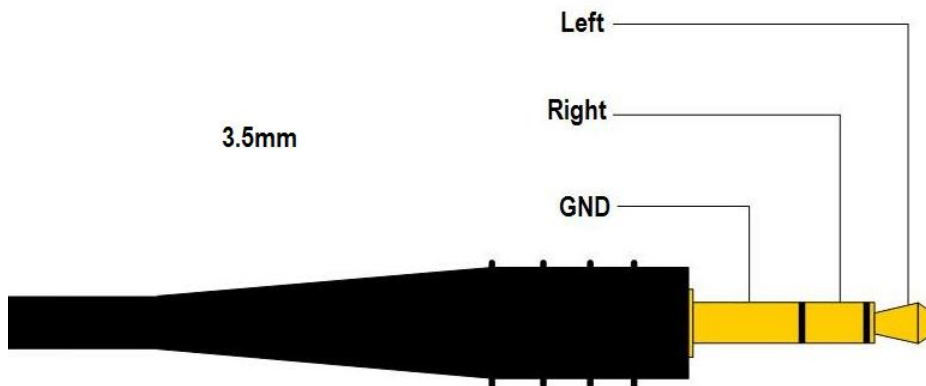

Figure 66. Audio In Plug
Figure 66 is the audio input jack required to connect to the BeagleBoard.
- 3) Using **Figure 66**, locate the positive (+) lead of the battery.